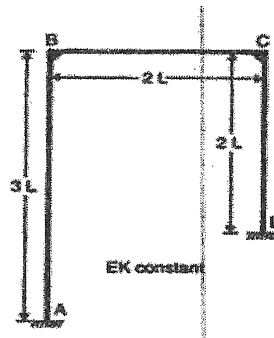

Fig.4
6. The portal frame shown in fig.4 has fixed ends. If the end D sinks by 5Δ . Find the moment induced in the frame. The members have the same uniform cross-section. (by moment distribution method)